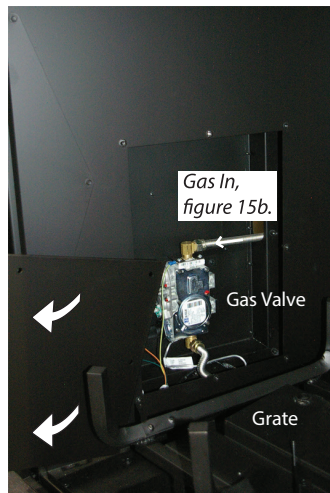

Figure 28a. (Removing the panel from the firebox), incoming gas from service and Gas valve.
**Step 4.** Slightly tilt panel, and pull out between the grate and firebox wall, **Figure 28a**.